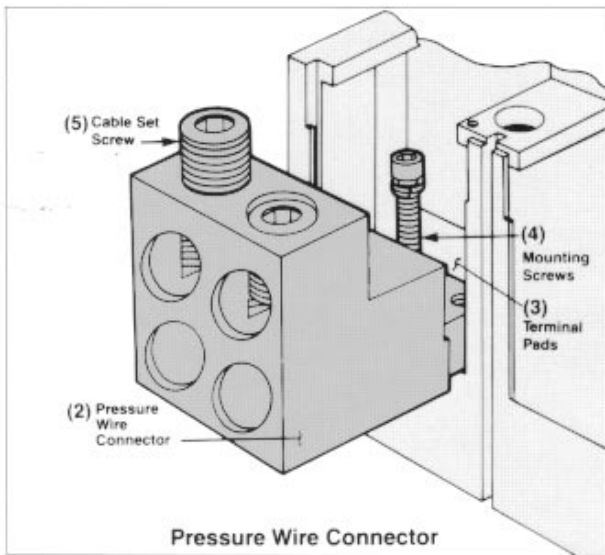

Figure 1
- D. Mount pressure wire connectors (2) to terminal pads (3) with mounting screws (4) (Figure 1). Recommended torque is 228 in. lb.
- E. Attach power cables to connectors and tighten set screws (5) (Figure 1) to specifications per Table 1.